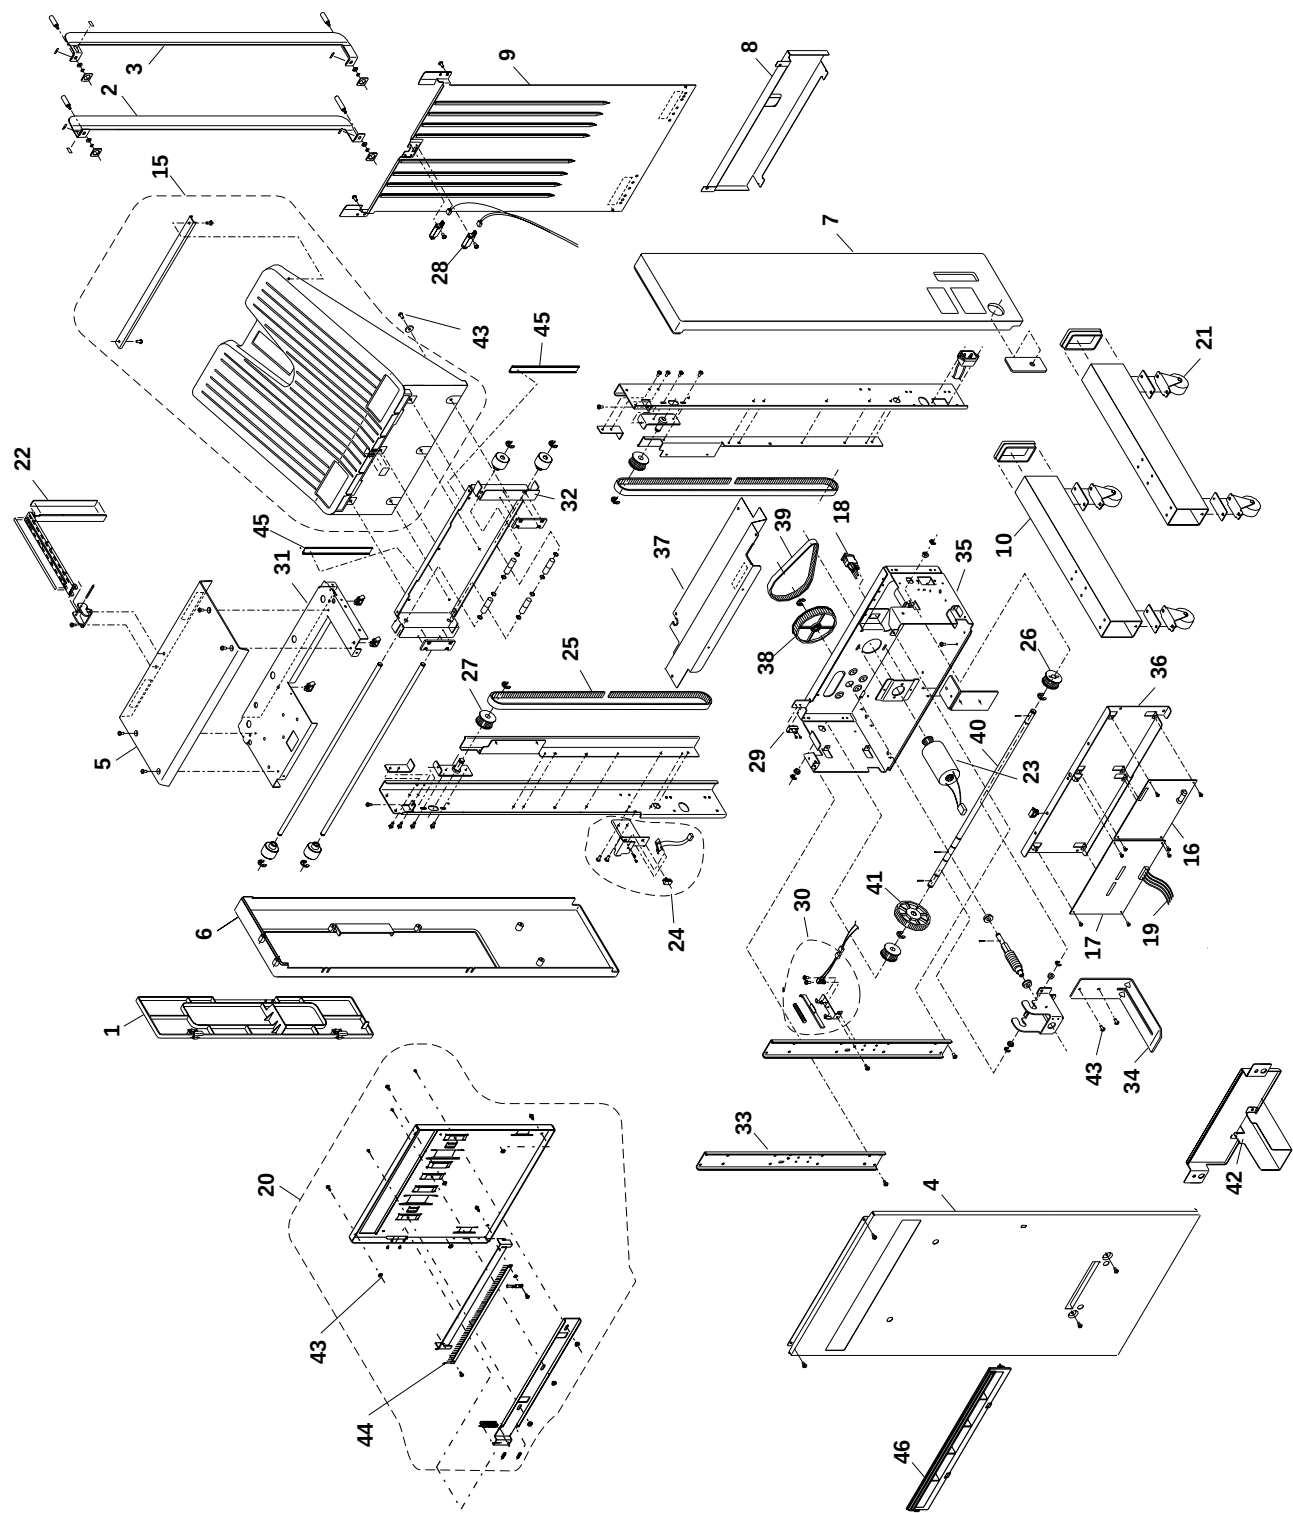

Figure B-27 Top Assembly Drawing
- Step 8** Remove the power supply shield (item 36 in Figure B-27). There are five screws that attach the shield (one in each corner of the shield and one in the middle near the bottom).
See item 50 in Figure B-27 "Top Assembly Drawing," on page B-56.
See Figure B-30 "Parts Diagram for Lever Kit," on page B-63. See item 67 in Figure B-27 "Top Assembly Drawing," on page B-56.
Parts List for Top Assembly. See Figure B-27.